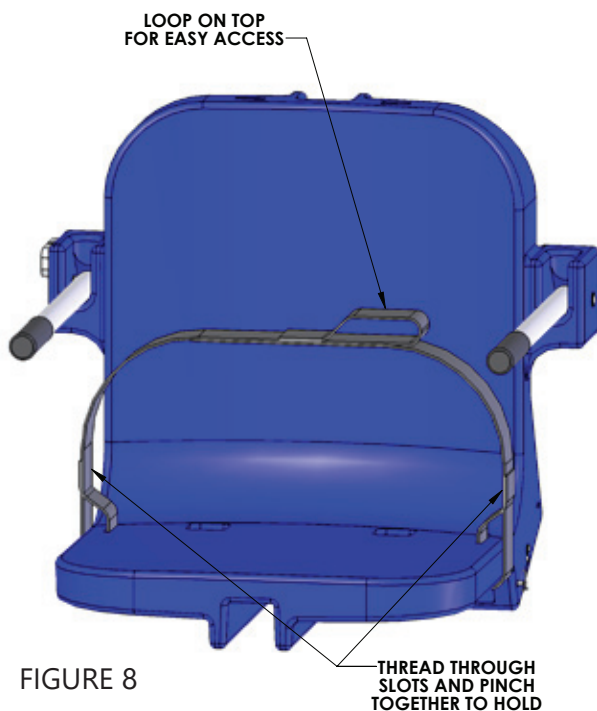

FIGURE 8
7. Attach the safety belt to the chair, as shown in FIGURE 8.